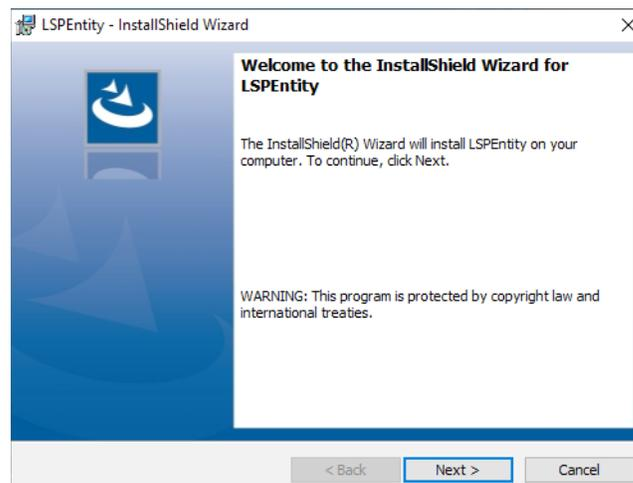

Figure 2
4. When the Installation Wizard appears, click Next (Figure 2).